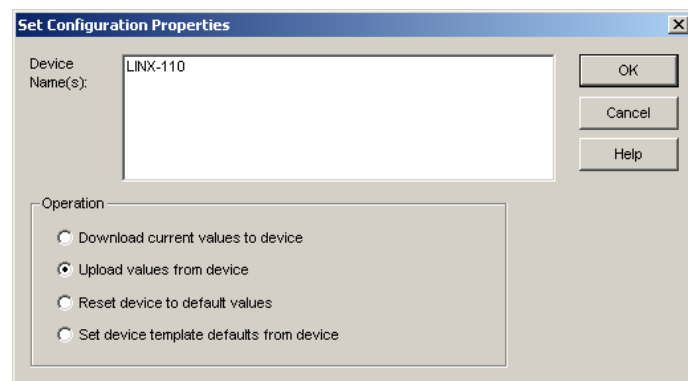

Figure 155: Set Configuration Properties in LonMaker TE.
2. This opens the dialog shown in Figure 155.